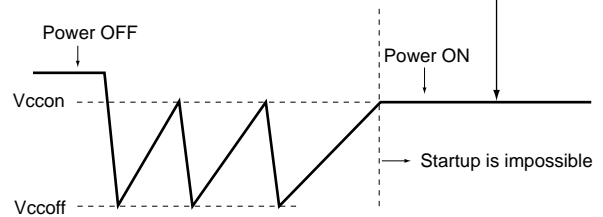

Fig. 22 Image of Vcc waveform when re-startup is impossible
After power-off, once VCC falls down below OFF threshold voltage, VCC rises up again and re-startup occurs while the capacitor C1 is discharged until approximately zero because VCC voltage rises up by the current flowing RA. This operation is repeated several times. After the repeated operation, IC stops in the condition that VCC voltage is equal to VCCON (=ON threshold) because capacitor C1 is discharged gradually and the decreased VCC inclination is out of the condition required by equation (4). After that, re-startup by power-on can not be guaranteed even when equation (8) is satisfied. The image of that the startup is impossible is shown in Fig. 22. It is necessary to startup IC that supply current Icc (startup) to VCC is over 4mA in the condition of Tj < 100 °C during Vcc is kept at VCCON (=16V, balance state at VCCON after the repeated operation.